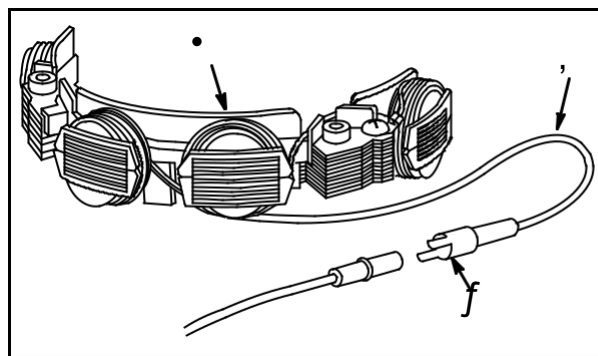

Fig. 10
Stator assembly (1), **Fig. 10**, is 5 amps or 14 volts AC for lighting circuit.